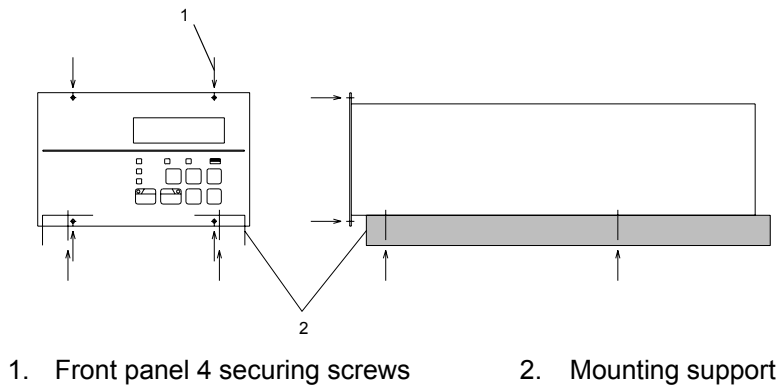

Figure 13 - Example of securing the SCU-1400
*Note:* For the dimensions of the front panel and positions of the screw holes for the rubber feet, refer to Figure 8 and Figure 13.
- Attach the front panel to the rack using the 4 screws Figure 13 (1).
- Support the SCU-1400 from the bottom using a support angle Figure 13 (2) or a similar tool.